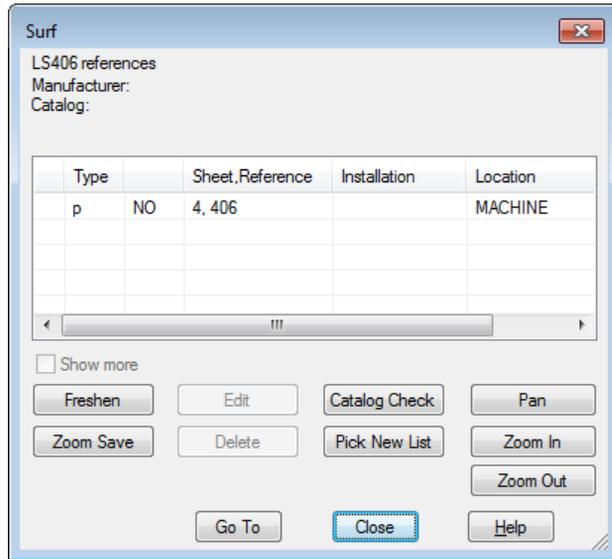

Figure 2-77 The Surf dialog box
- Choose **Surf** from the shortcut menu; the **Surf** dialog box is displayed, as shown in Figure 2-77. Choose **Go To** from the **Surf** dialog box; the *demo004.dwg* file is opened with **LS406** zoomed in.